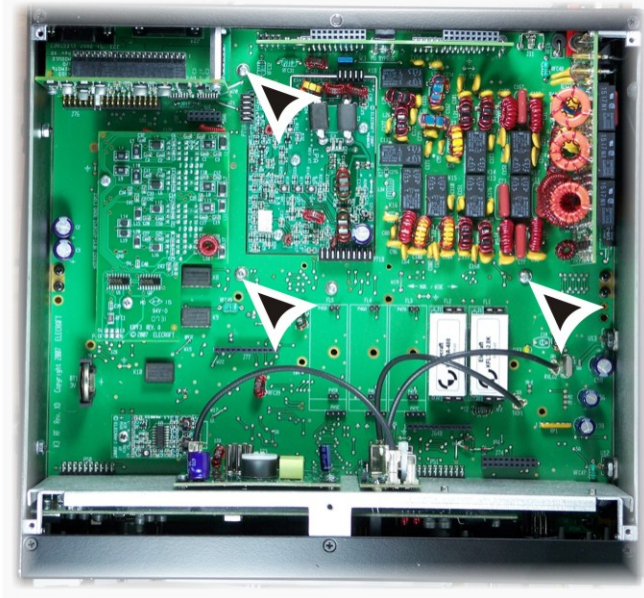

Figure 6. Rear Shield Mounting Screw Locations.
- Remove the three screws, washers and standoffs (on the bottom of the RF) board shown in Figure 6. Save the lock washers and standoffs. The screws will not be reused.